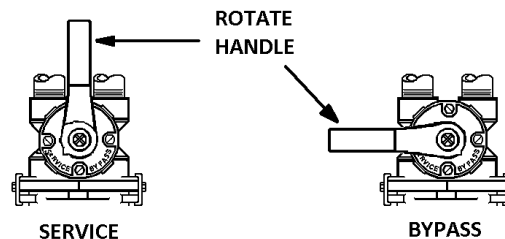

FIGURE 4: Stainless Steel Bypass Valve Operation
- STEP 9:** Place bypass valve in the "Bypass" position (refer to Figure 4 below). Open main supply valve or turn on power to pump on private well systems.
- STEP 11:** Refer to Figure 4 (page 5) for appropriate bypass valve operation. Rotate bypass lever of stainless steel bypass $\frac{1}{4}$ of the way to Service allowing unit to fill slowly. Filling the mineral tank in this position will force any trapped air to the drain. Fully open bypass valve to the "Service" position.